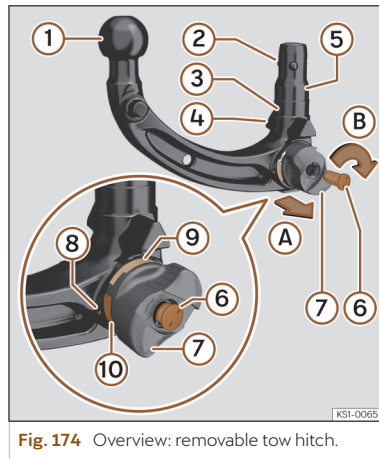

Fig. 174 Overview: removable tow hitch.
- Before using the removable tow hitch, note the number engraved on the key >>> Fig. 174 ⑥ in case it is necessary to make a duplicate.
- Check that the housing, the thumbwheel >>> Fig. 174 ⑧, the stem ⑤ and the locking balls ② of the tow hitch are clean and in good condition. Clean them if necessary.
- The red mark >>> Fig. 174 ⑩ on the thumbwheel points towards the green mark ⑨ on the tow hitch.
- The thumbwheel ⑧ is clearly separated from the tow hitch by at least 4 mm (0.2 in).
- All locking balls ② can be fully engaged on the stem ⑤.
- The key ⑥ is inside the lock, the arrow on the key is pointing towards the *lock open* symbol on the thumbwheel ⑧ and the key cannot be removed.
- Open the lock cover >>> Fig. 174 ⑦ and insert the key into the lock.
- Turn the key ⑥ counterclockwise until the arrow on the key points towards the *lock open* symbol on the thumbwheel ⑧.
- Hold the tow hitch with one hand. With the other, pull out the thumbwheel ⑧ in direction A.
- Turn the extracted thumbwheel ⑧ in direction B as far as the stop.
Once the tow hitch has been pre-tensioned, do not touch the thumbwheel again >>> Fig. 174 ⑧. When the tow hitch is locked, the thumbwheel rotates to its original position and can cause injury >>> Δ.
- The green mark on the thumbwheel ⑨ faces upwards.
- The hitch is locked with the key ⑥ and the key can be removed.
- There is no longer any gap between the thumbwheel ⑧ and the hitch.
- Turn the key ⑥ clockwise to lock the hitch.
- Close the lock cover ⑦.
- The green mark on the thumbwheel >>> Fig. 174 ⑨ faces upwards.
- The thumbwheel ⑧ is right next to the hitch and can be locked.
- The hitch is locked and the key ⑥ removed.
- It is no longer possible to pull the thumbwheel ⑧ sideways.
- Do not use the tow hutch is the diameter of the spherical head >>> Fig. 174 ① is less than 49 mm (1.9 in) any any point.